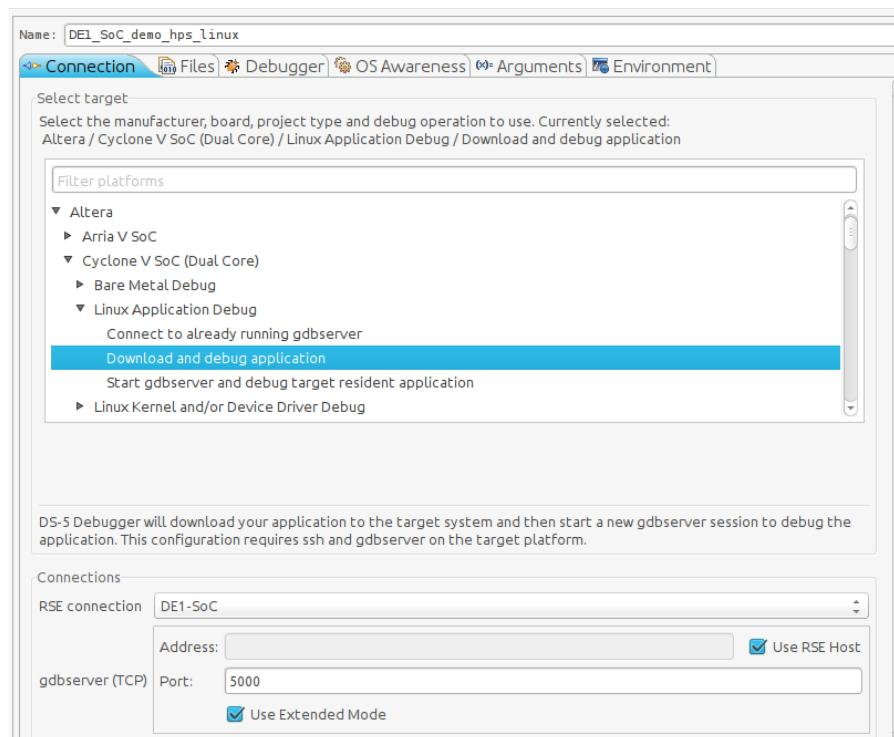

Figure 13-19. Debug Configuration "Connection" Tab
- b. Set the “RSE connection” to “DE1-SoC”. This is the remote system connection we created earlier. You should have something similar to Figure 13-19.